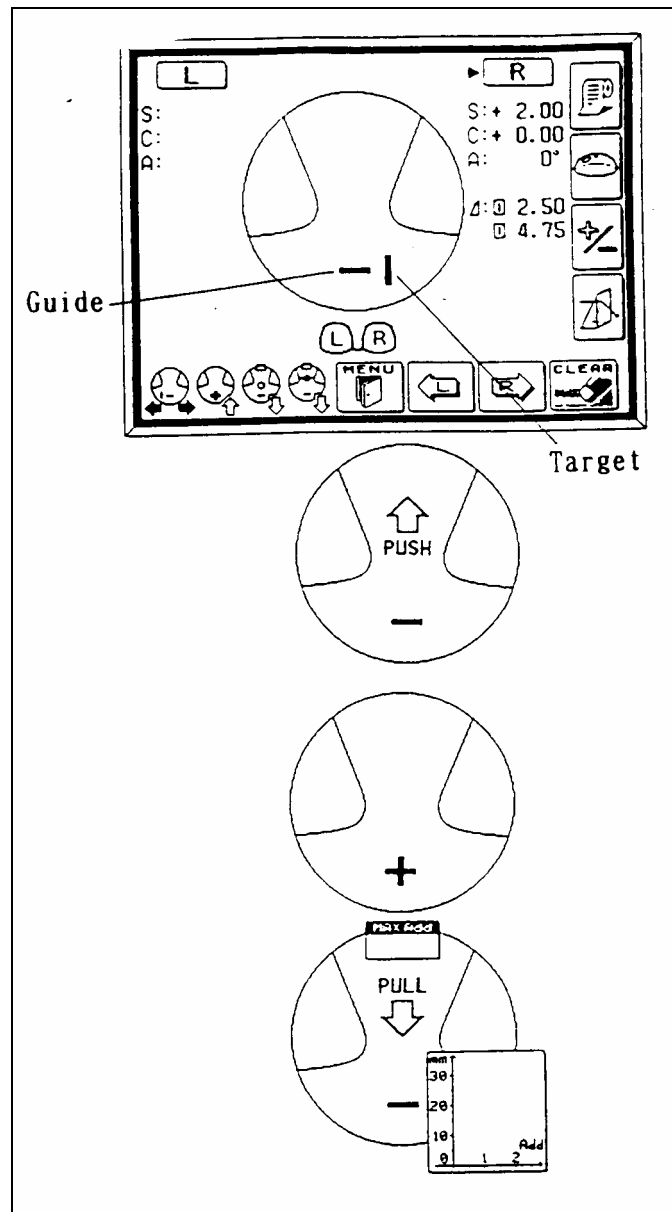

Figure 2-3. Measuring the lens
1. Press the PPL mode button (the second button on the right hand side of the display screen). Four lens graphics will appear on the bottom left hand side of the LED screen to indicate that you are now in the PPL mode (Figure 2-3).
4. Align the target (vertical line) by moving the lens sideways so that the target is brought to the middle of the guide (horizontal line) (Figure 2-3).
5. When the target is within an acceptable range, the “PUSH” sign with an up arrow will appear and the target line will disappear (Figure 2-3).
6. Push the lens forward slowly until the target changes to a plus sign (Figure 2-3).
7. When the distance value is stable, a small beep sounds and the “PULL” sign with a down arrow appears (see Figure 2-3).